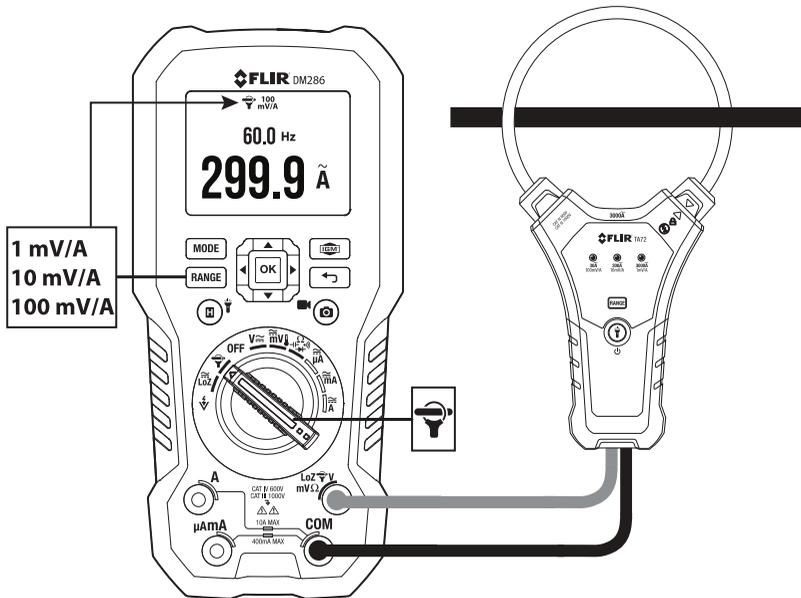

Fig. 9.13 FLEX Clamp Adaptor Application
2. Connect a Clamp adaptor as shown in **Fig. 9.13**.